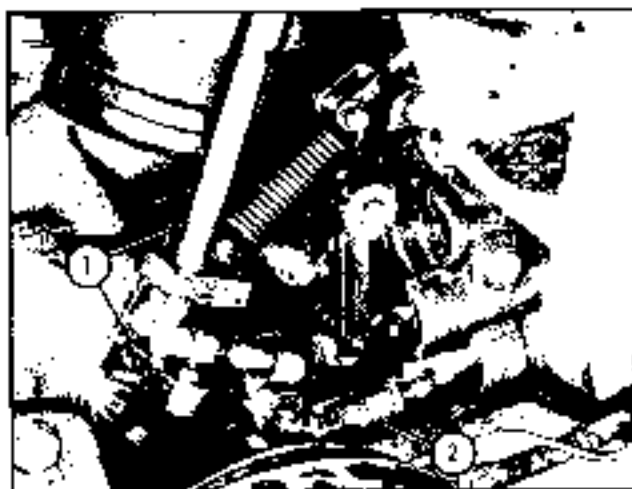

Fig. 1-41. Lever control for directional spool
h. For lift trucks equipped with directional spool control linkage as illustrated in Fig. 2-13B, adjust position of spool in valve with connector (7). Maintain spool position as described in previous paragraph (g). The set screw used with cable type control (Fig. 1-40) to regulate spool position is not used with lever type control (Fig. 1-41).